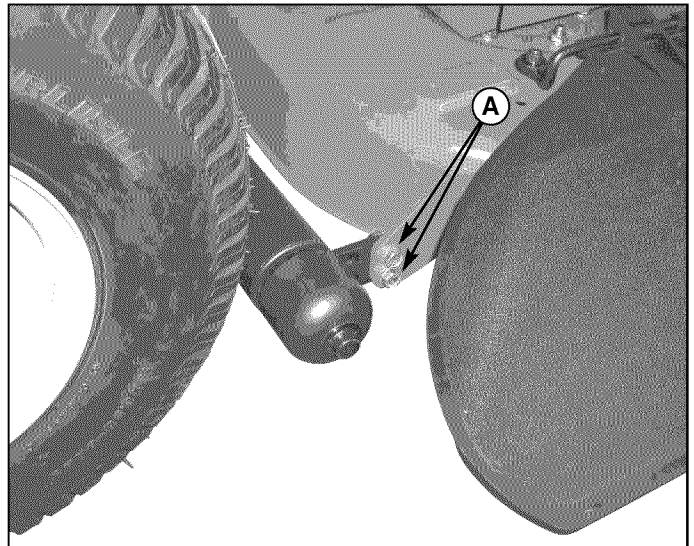

Figure 32. Roller Bar Leveling
5. Locate the roller bar leveling hardware on the right side of the mower deck (A, Figure 32). Loosen the hardware and raise or lower the roller bar until the correct level is achieved, then tighten the hardware. Repeat steps 4 & 5 if necessary.